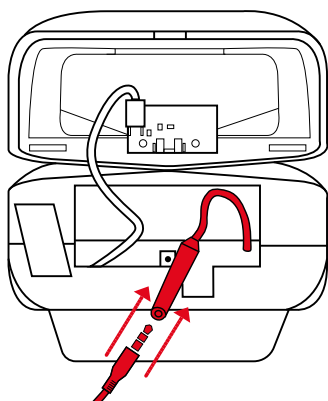

Figure 3.2 Connecting diagnostics to the carrier battery
- 4 Connect the diagnostic cable to the bicycle using the 3.5 mm jack connector (Fig. 3.2).